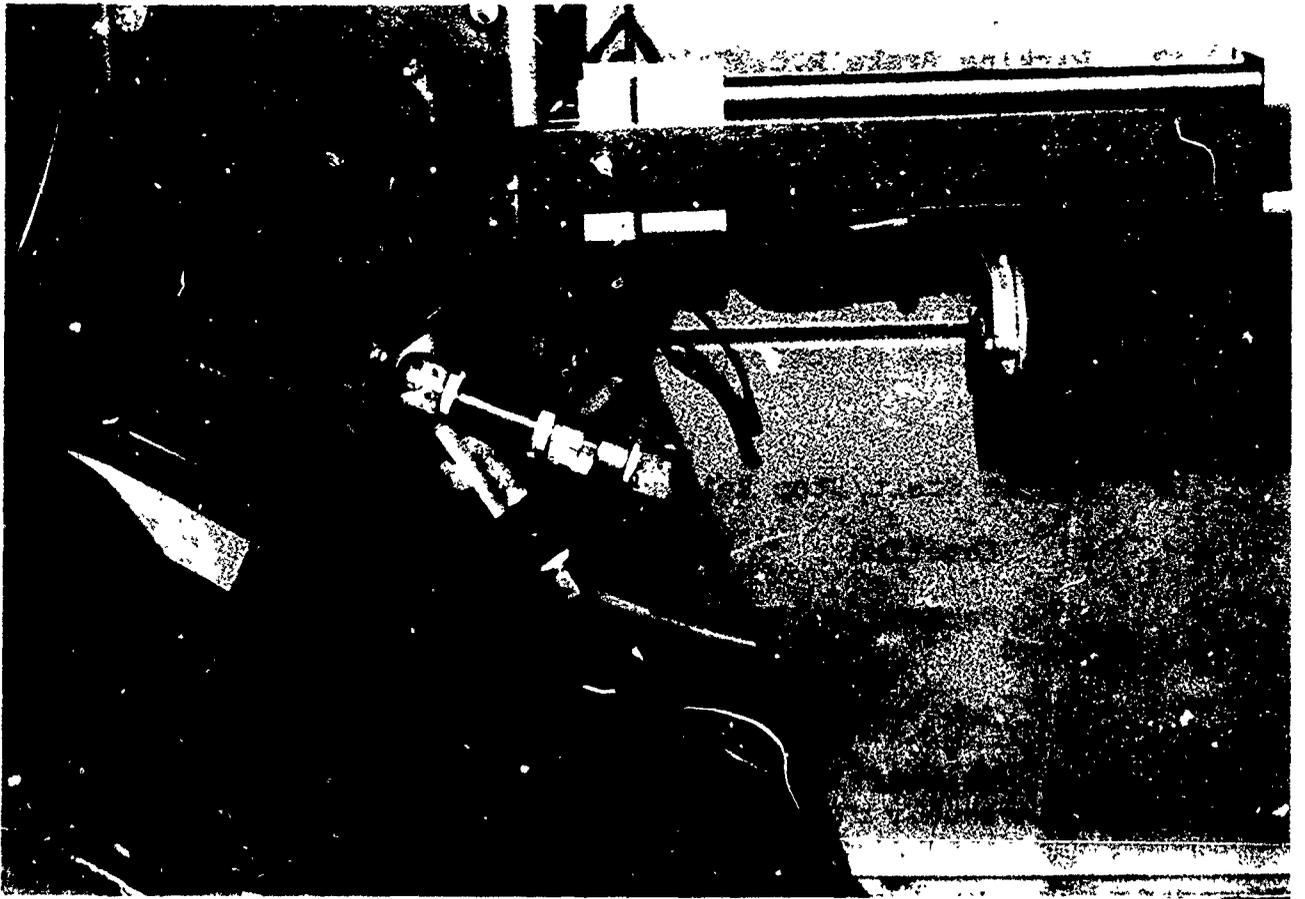

Figure 37. Parking Brake R.C. Valves.
17. Parking Brake R.C. Valves (Figure 37)